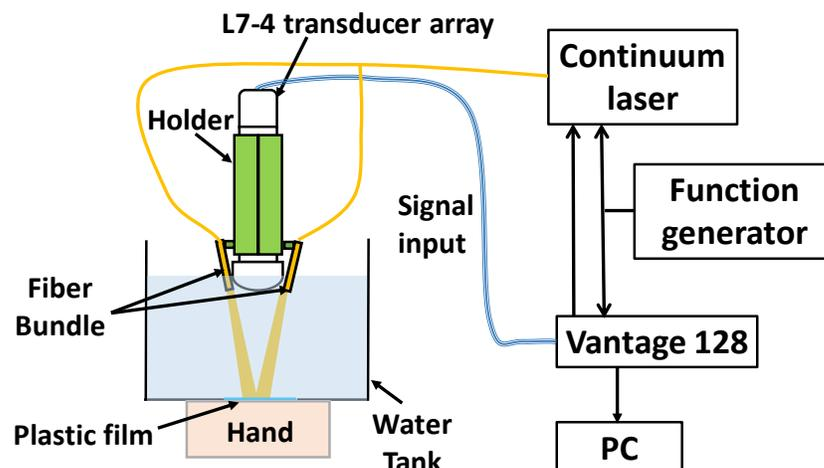

Figure 2: Schematic diagram of the photoacoustic hand imaging setup.
- The Dolan Jenner fiber bundle has two line outputs, each can be mounted to one side of the transducer array (**Figure 2**). The angle of the line outputs can be adjusted to focus at around 25 mm, which is also the acoustic focus of L7-4 transducer.
- Assemble the system as shown in the **Figure 2**.